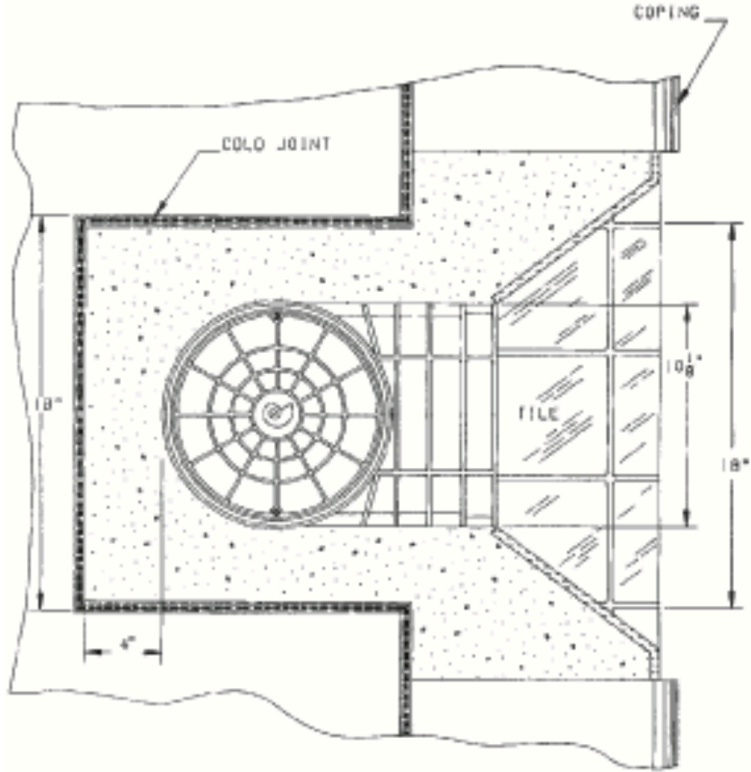

Figure 1: Top View
NOTICE: Skimmer MUST be surrounded by at least 4" of structural concrete in a monolithic pour, using a cold joint as shown in installation drawings (Figure 1).
- 5. Structural gunite/concrete should be applied in a monolithic pour, in conjunction with a cold joint as shown in Figure 1.